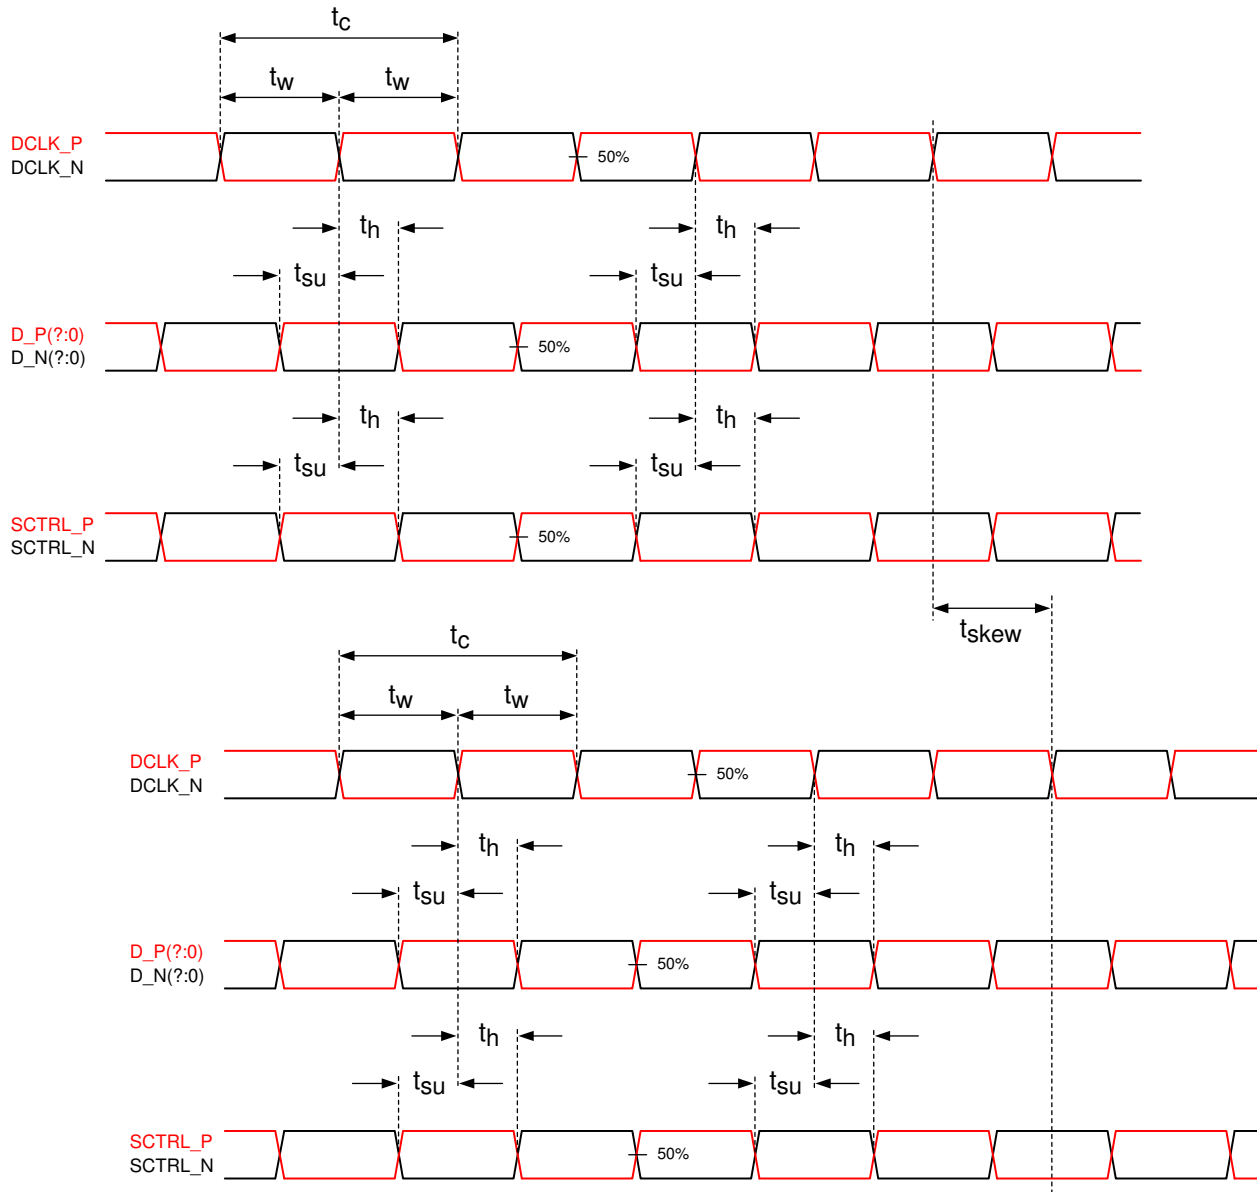

图 6-6. Timing Requirements
- See LVDS Timing Requirements in #6.8 and 图 6-6.